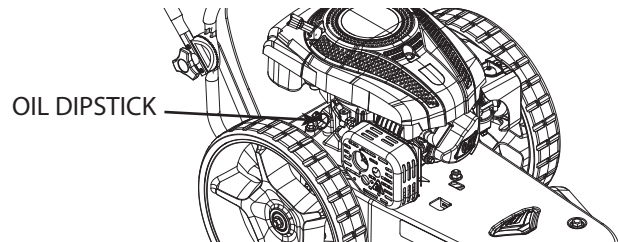

FIGURE 7: Oil Dipstick Location
2. Remove dipstick and carefully tip the engine toward the dipstick side to empty oil from oil fill area. Empty oil into a suitable oil container and dispose of oil properly. **SEE FIGURE 7**